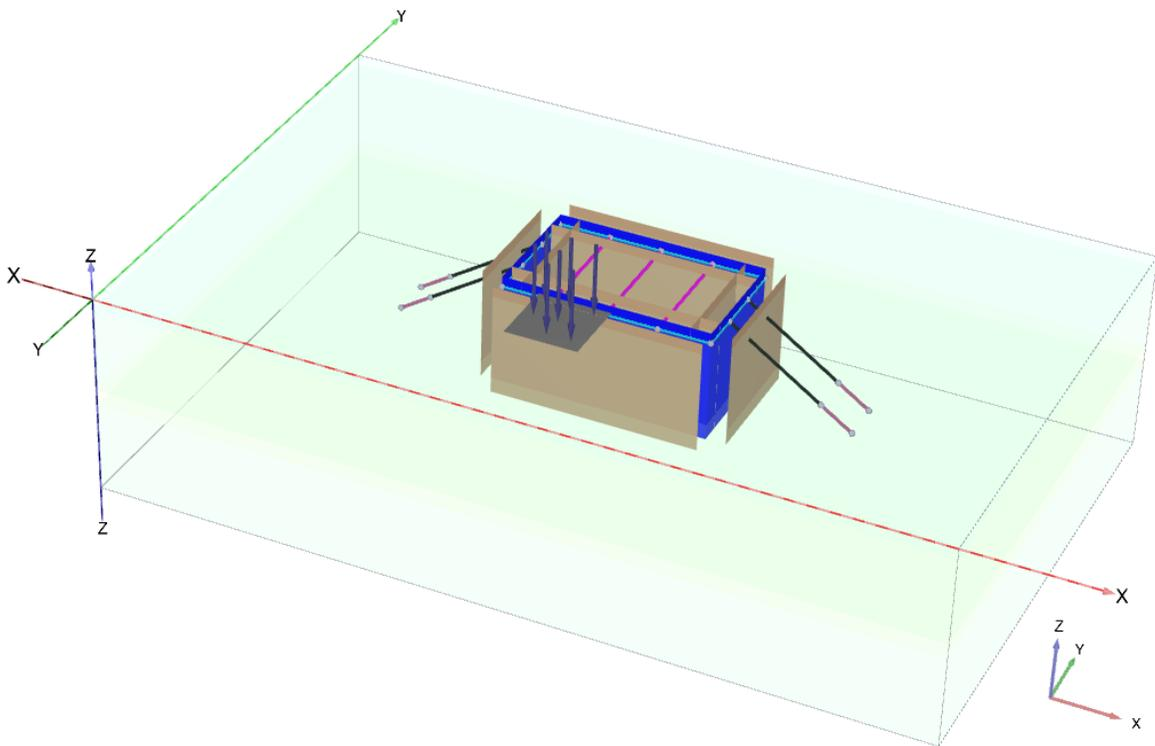

Figure 32: Structure mode - Complete project geometry
-  Create a surface load defined by the points: (34 19 0), (41 19 0), (41 12 0), (34 12 0). The geometry is now completely defined (see Figure 32 (on page 52)).